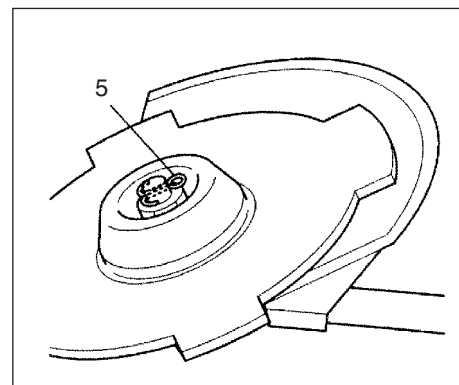

Fig. 1-10C
If your unit is of a nut securing type and equipped with a cotter pin, the blade must be retained with a new cotter pin (5) each time installed. (Fig. 1-10C)